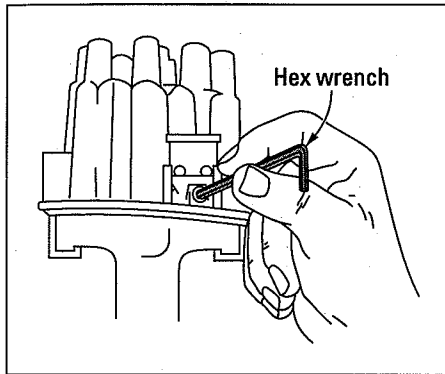

Figure 12-39:
If you have an *external adjustment window*, see Figure 12-39 and follow these steps:
2. Use a hex wrench (an Allen wrench shaped to fit into hexagonal holes) to turn the adjusting nut behind the sliding window in the distributor cap, as shown Figure 12-39.
5. Depending on whether you have a distributor with an external adjusting window (refer to Figure 12-39) or the kind of points that adjust with an adjusting screw or slot (Figures 12-37 and 12-38, respectively), do the following: